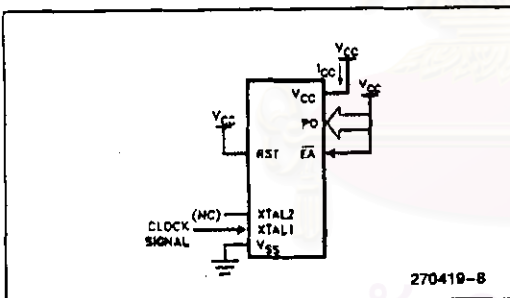

Figure 7. ICC Test Condition, Active Mode. All other pins are disconnected.
6. See Figures 7 through 10 for ICC test conditions. Minimum V_{CC} for Power Down is 2.0V.